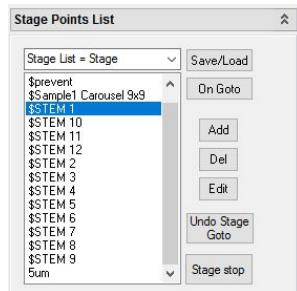

Figure 4.12: Stage Point List on the left hand side of the software interface
6. Navigate to your sample by **Clicking** the position on the stage point list and then **Goto** as shown in Fig. 4.12. \$STEM 1 corresponds to position 1 in the STEM holder.